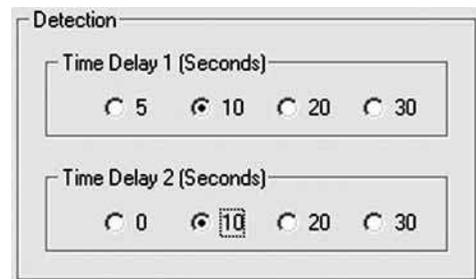

FIGURE 46
- Detection - Input Programming:** The Detection area (see Figure 46) provides programming of the two time delays associated with the detection circuit input.